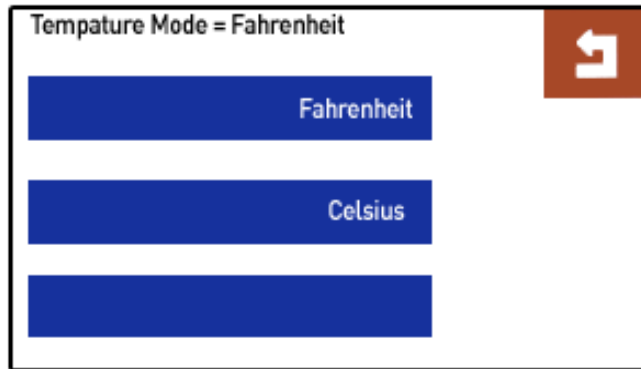

Figure 38 – Temperature Mode selection
3. Wait five (5) minutes. This will allow "Error in %" readings to stabilize. The screen will display a countdown during the calibration process (See Fig. 38 above).
4. Press the  button to calculate and store the calibration value. The "Error in %" should now be equal to zero (0). If "Error in %" does not read zero (0) on the first attempt, press  to recalculate and store the calibration value.
The Temperature Mode menu (Figure 38) allows you to select one of two temperature modes for displaying and recording data. These two modes are **Fahrenheit** and **Celsius**.